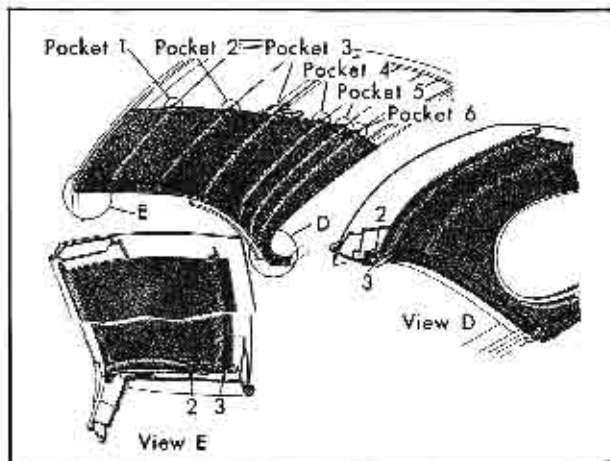

Fig. 3-73 Headlining Removal - (6237)
2. Unfold wire-on lace along the side roof rails to expose headlining attaching tacks. View "E" 2, Fig. 3-73.